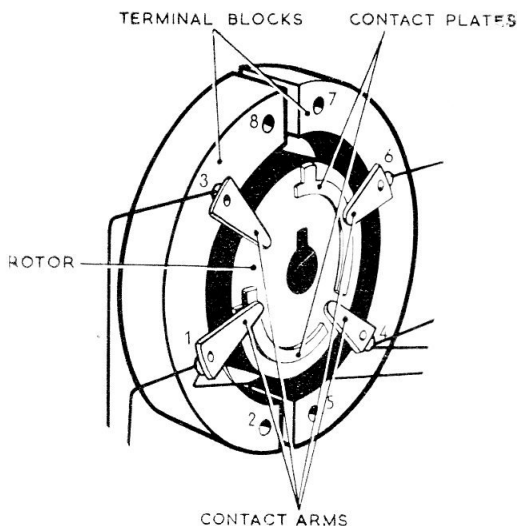

Fig. 2. Arrangement of switch block
6. The switch housing provides location for two of the layshafts. Two semi-circular terminal blocks (fig. 2) provide the connecting points for external and internal electrical leads. The external electrical cable passes into the actuator through a cable outlet fitted in the circumference of the intermediate and switch housings.